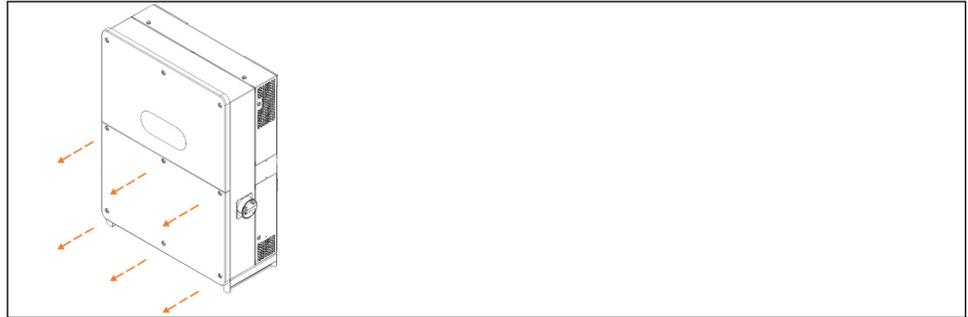

Figure 7-1 Removing the Front Panel
5. Remove the six screws on the front cover of the lower wiring box then put away the front cover, as shown in Figure 7-1.